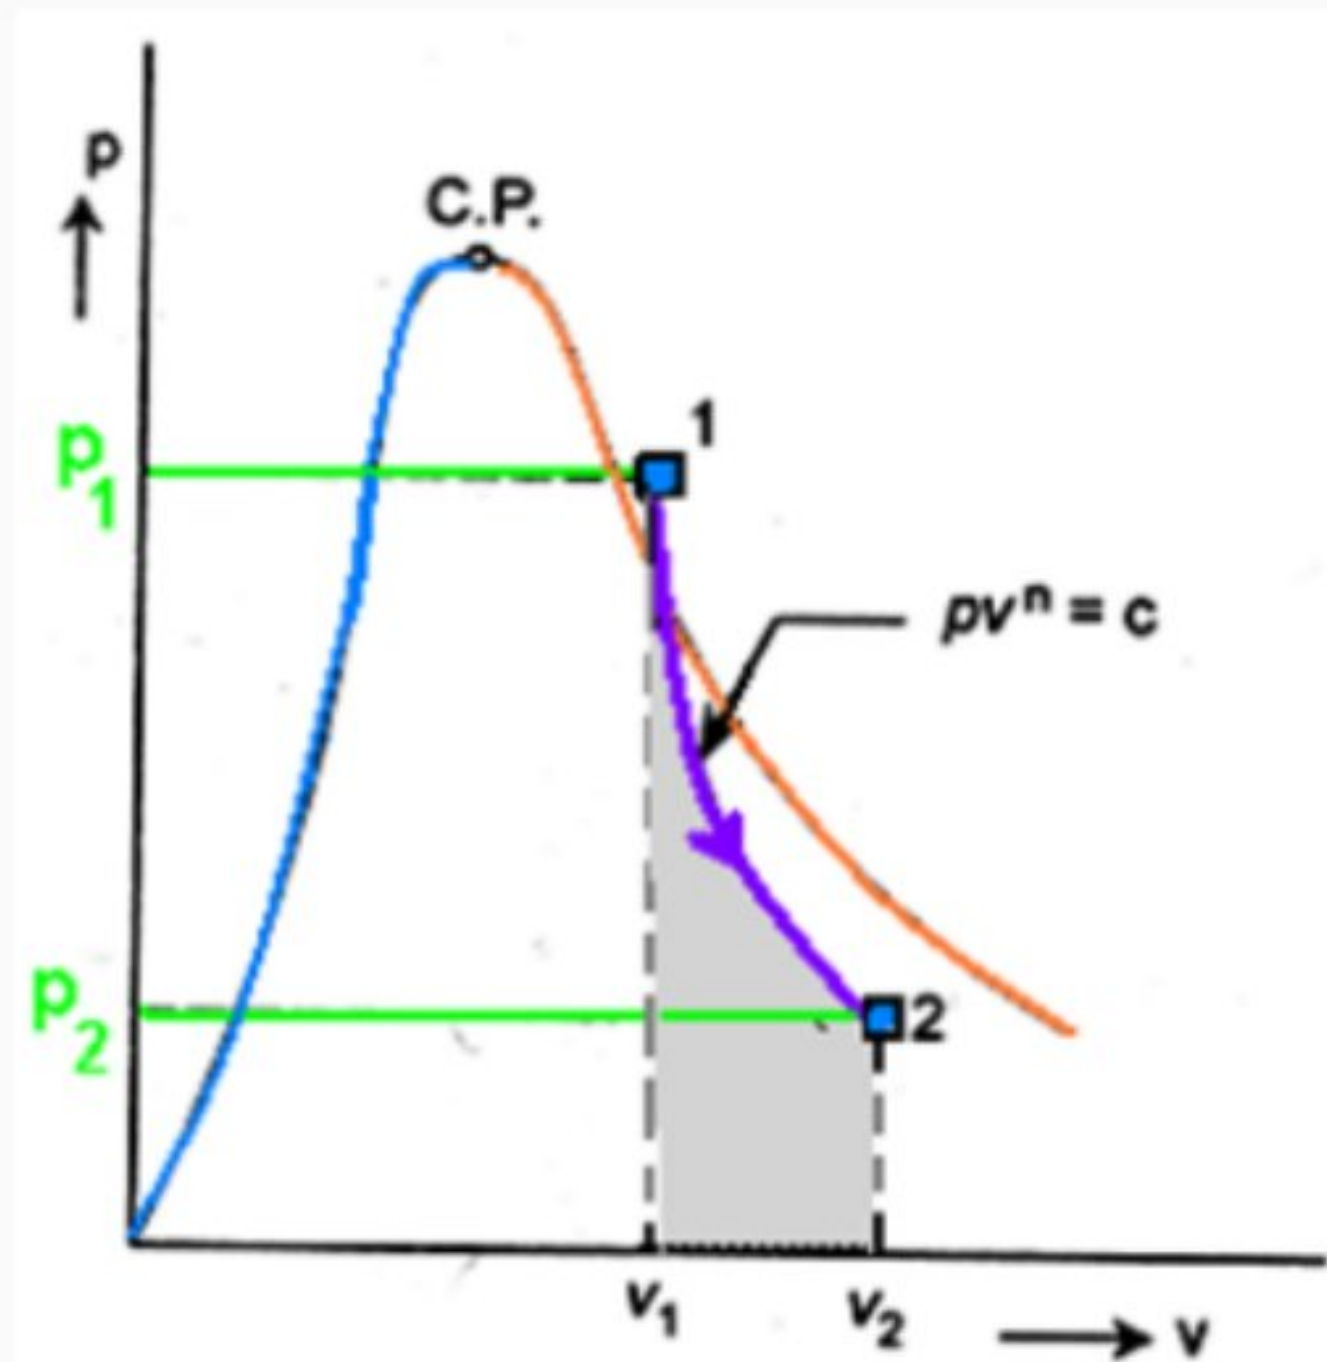

Fig. 22.5. Polytropic process
**(a) p-v Representation:** Assume that steam undergoes a polytropic expansion process following the law  $pv^n = c$  from pressure  $p_1$  to  $p_2$ . It is to be noted that steam does not behave as perfect gas obeying  $pv = RT$ . The equation  $pv^n = c$  is merely a statement of pressure-volume relationship during a reversible polytropic process. The non-flow polytropic process has application in steam engines, etc. This process is represented as 1-2 on p-v diagram shown in Fig. 22.5 in which the initial condition is superheated steam at pressure  $p_1$  and super heating temperature  $t_{sup,1}$  to the final condition of wet steam at pressure  $p_2$  and dryness fraction  $x_2$ .